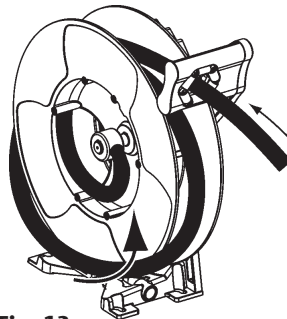

Fig. 13
2. Wind the hanging hose into the reel (fig. 13).